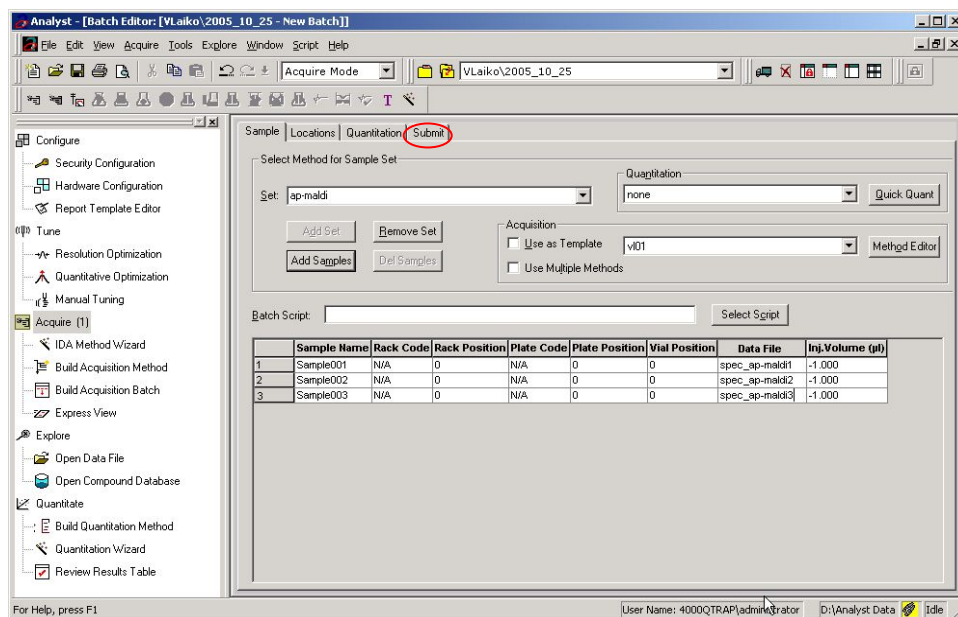

Fig. 7-33. Building the Acquisition Batch for the tree samples.
- Repeat the previous procedure for a desirable number of samples. An example in Fig. 7-33 shows a batch of 3 samples prepared for the run. Click Submit bar, when the batch is prepared.